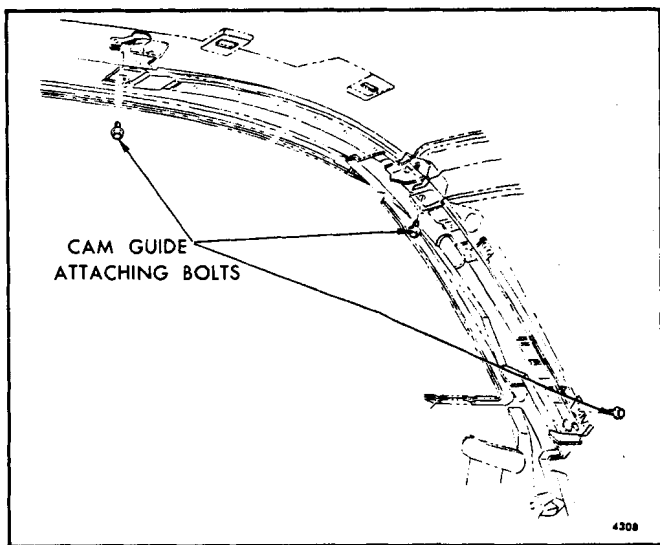

Fig. 9-14-Tail Gate Window Right Cam Guide Attachment
5. Remove cam guide attaching bolts, move guide forward to clear pillar access hole with drive cable and withdraw guide from body (Fig. 9-14).